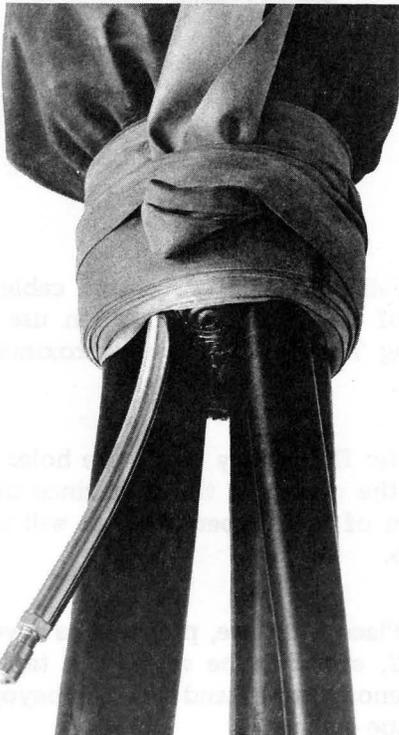

Fig. 17
5. Tightly wrap a full rubber bandage over the collar as shown in Fig. 17.